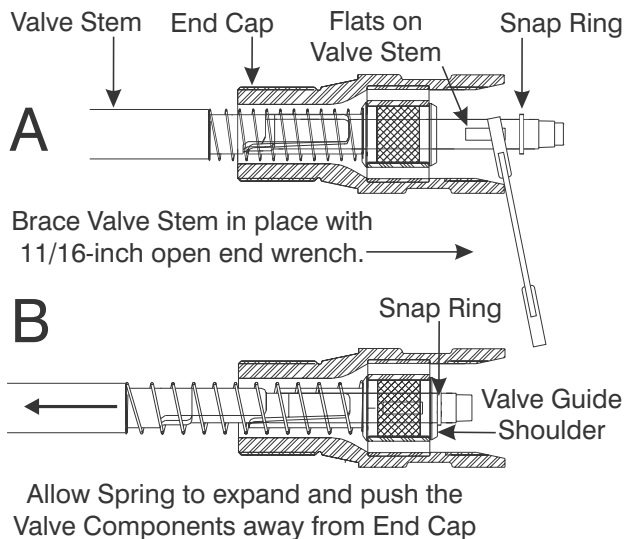

Figure 9-27. Valve Guide and Snap Ring
6. Carefully let the Spring push the Valve components away from the End Cap until the Snap Ring rests against the collar of the Valve Guide (7), as shown in Figure 9-27.